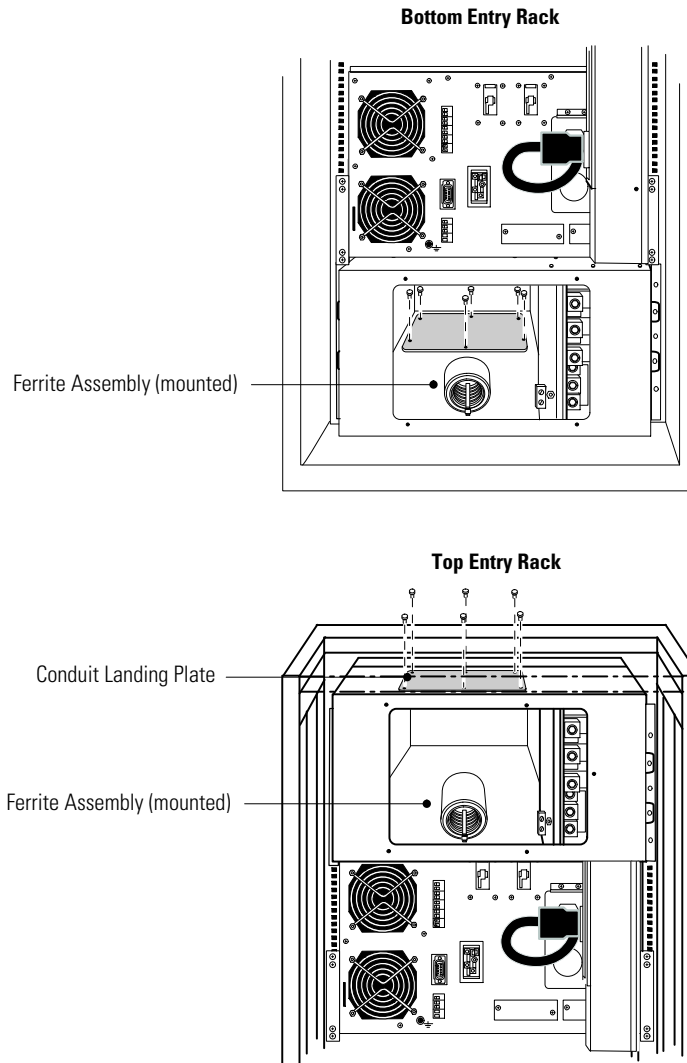
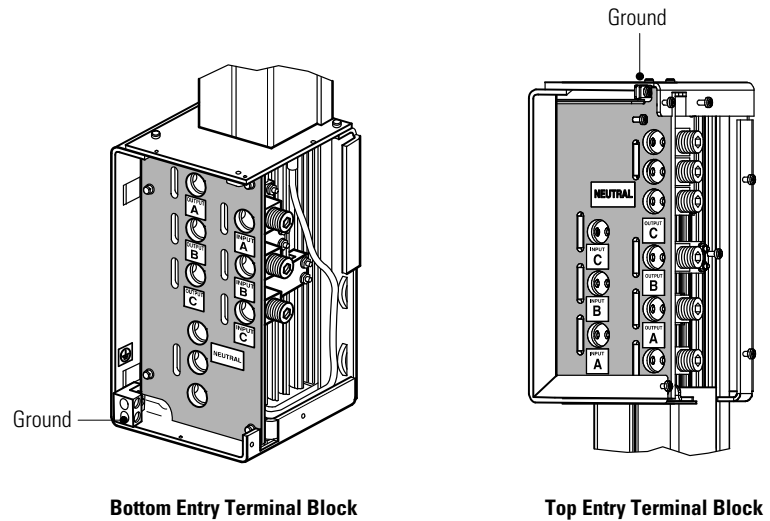

Figure 12. Removing the Conduit Landing Plate
Figure 13. BladeUPS Bar Terminal Block
3. Remove the six screws on the conduit landing plate and retain. Remove the plate and retain. See Figure 12.
5. Connect the input, output, and ground wires to the BladeUPS Bar terminal block according to Figure 13 and Table 4. Route the three input phases and the input neutral through the mounted or loosened ferrite assembly (see Figure 12).